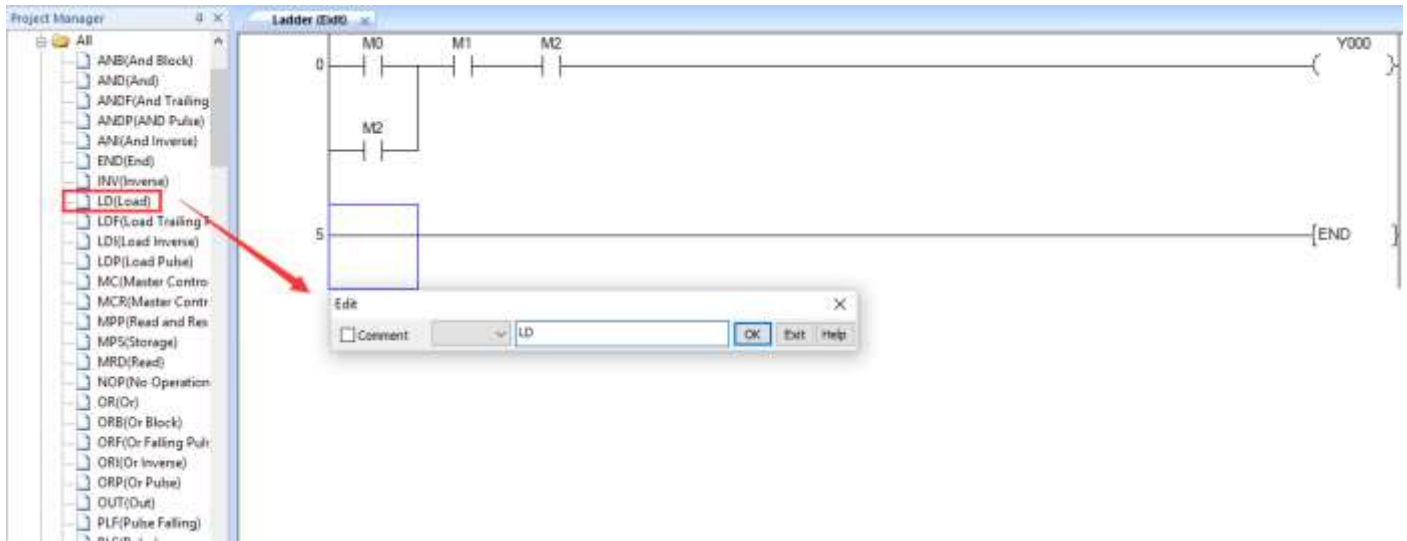

Figure 4-2
5) The [Edit] window will pop up automatically with selected instruction, as Figure 4-2 shows;